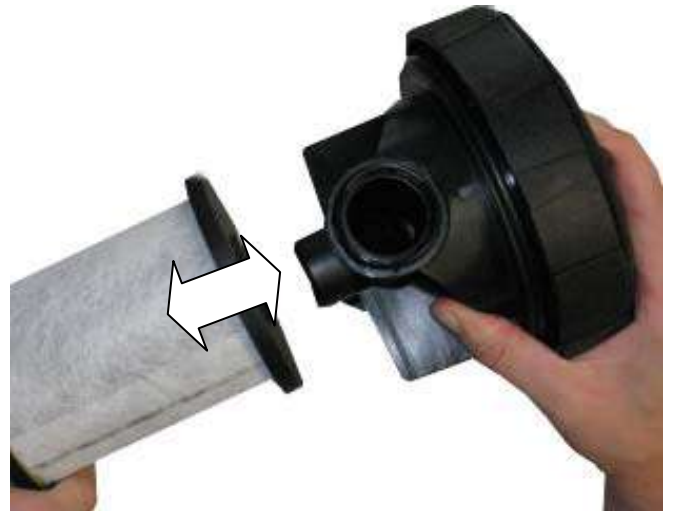

Fig. 19 Changing oil separator of ProVent 400
- Pull the oil separator element off the lid fitting (see Fig. 19)
- Mount the new replacement element on the lid fitting (see Fig. 19).